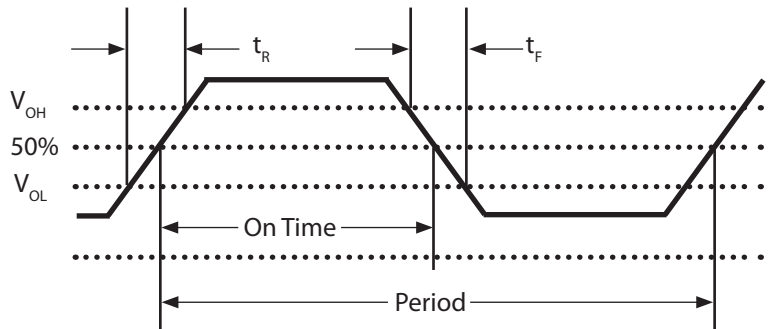

Fig 2: Waveform
- 5] Duty Cycle is measured as On Time/Period (Fig 2).